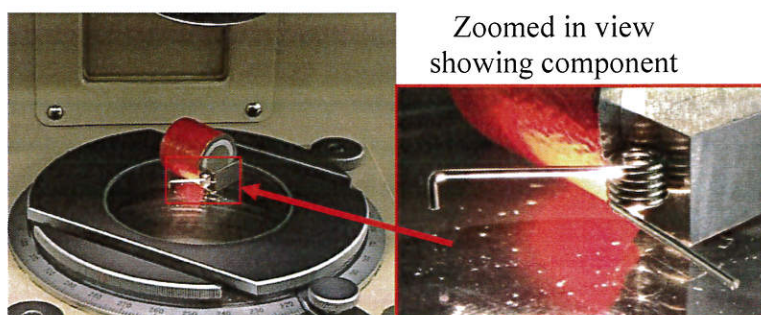

Figure 3: Component in place on the flat glass.
6.2.1. **Set Up For Measurement.** Attach the component to be measured flat onto the magnetic stand then place both onto the glass stage of the profile projector, as show in Figure 3: ensure the magnification is set to 10x, line up the cross hairs with datum edge 'X' using rotary stage with the rotating screen set to 0.0°.